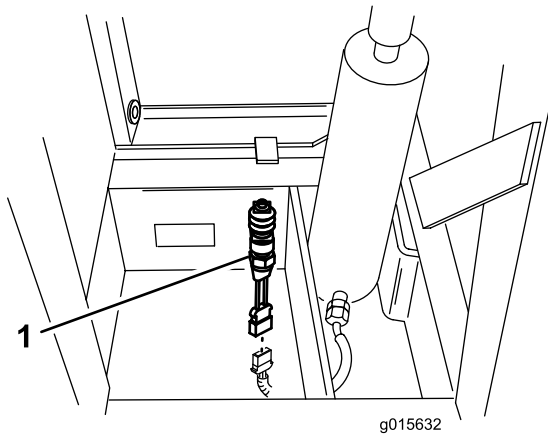

Figure 19
3. Route the harness to the hopper switch mounted to the frame tube (Figure 19). Plug the harness into the switch.